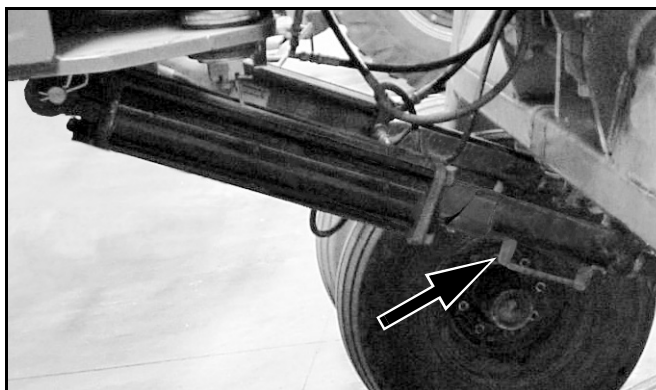

Figure 31
6. Refer to Figure 31. Rotate cylinder lock channels over rods on the two transport lift cylinders and the front box lift cylinder.